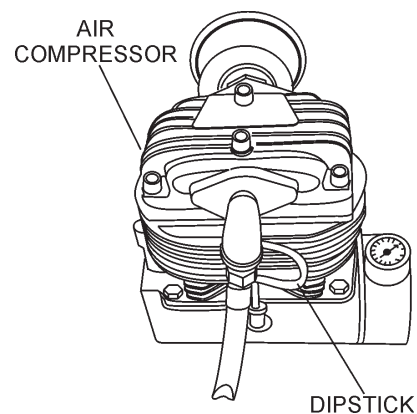

Figure 29. Dipstick Location (Air Compressor)
1. Remove the air compressor oil dipstick (Figure 29) from its holder.